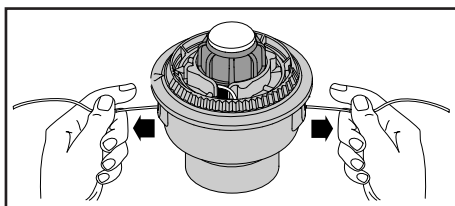

Fig. 15
7. If winding the line becomes difficult or the line jams, pull the ends of the line away from the spool and continue winding the inner reel counterclockwise (Fig. 15).
Pull the ends of the line firmly away from the spool to release the inner reel (Fig. 15). If this procedure does not release the inner reel, follow the "Cleaning the SpeedSpool" instructions below.